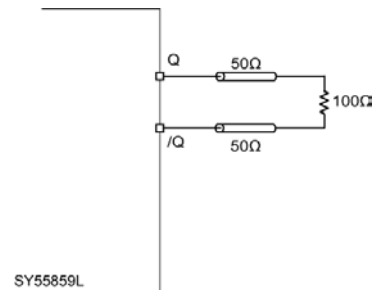

Figure 6. Output Interface
1. AC characteristics are guaranteed by design and characterization. Tested using environment of Figure 6, 50 $\Omega$  equivalent load.